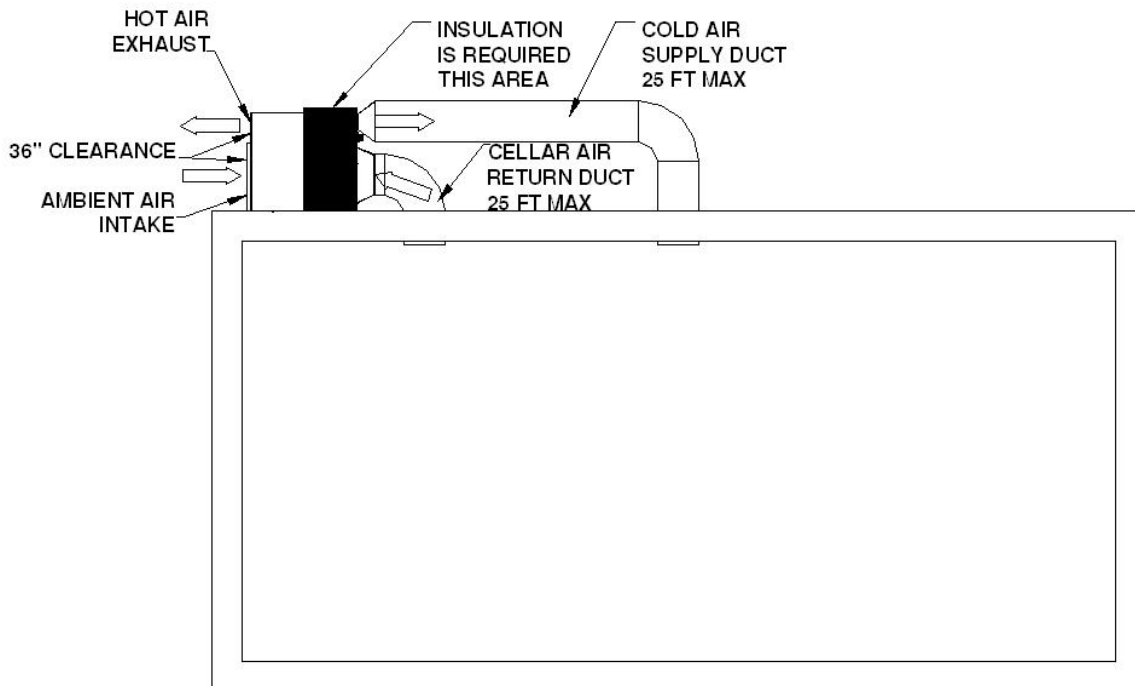

Fig. 10 Cold-air supply and cellar-air return ducts only
5. Remote installation with cold-air supply and cellar-air return ducts only (Fig. 10)